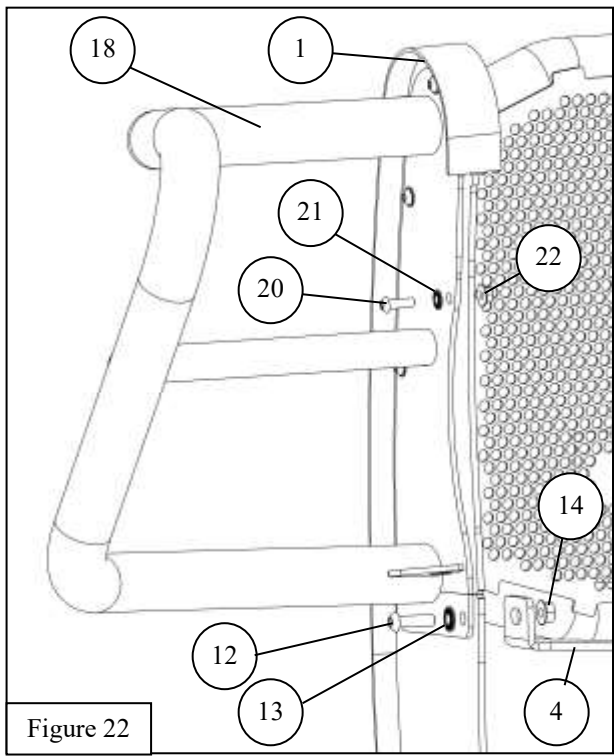

Figure 22
24. Use the supplied M8 hardware (Items 20-22) to secure the HDX Driver and Passenger Wings to the grille guard base. See **Figure 22** for reference. **Note:** *The mounting hole shared with the upper support strap uses M10 hardware.*